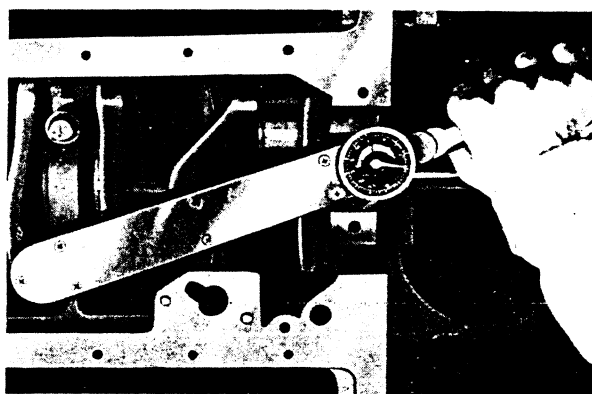

FIG. 46
8. Tighten all main bearing cap screws to a torque wrench reading of 90—100 ft. lbs. (12.4—13.8 kg. metres) as shown in Fig. 46.